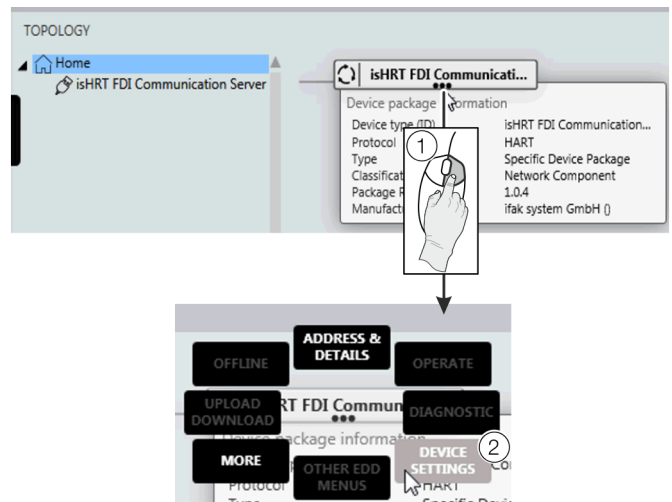

Figure 47: Select FIM – 'Device Settings'
6. Right-click ① as shown in Figure 47.
7. Select 'DEVICE SETTINGS' ② as shown in Figure 47.